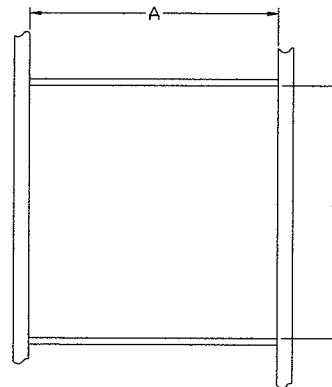
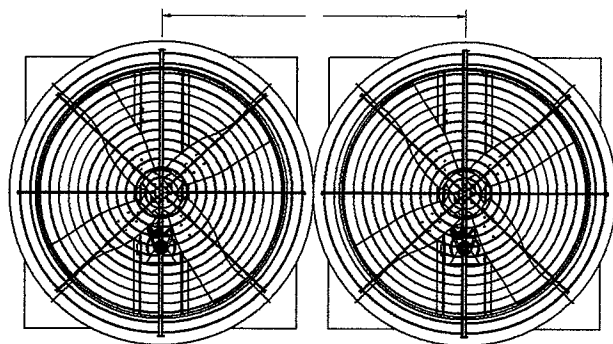
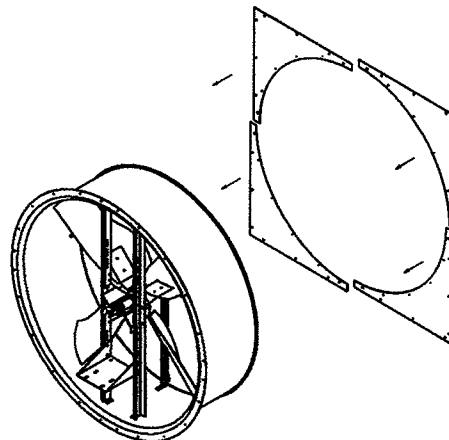
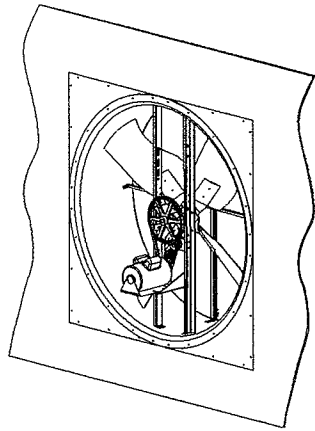

Figure 1
Figure 2
Figure 3
Figure 4
3. **Caution!** Guards must be installed when fan is within reach of personnel or within eight (8) (2.5 m) feet of working level or when deemed advisable for safety.
4. Attach the corner fillers to the fan inlet flange as shown in Figure 3 and Figure 4 using the #10 x 1 screws
centerline of the fan as shown in Figure 4. Fasten with screws provided by the installer.
2. Place a wrench on the hex nut in the belt tightener body as shown in Figure 1 and a wrench on the belt tightener mounting fastener.
3. Using the wrench on the belt tightener body, apply pressure in the appropriate direction (see Figure 1) until the belt is properly tensioned. **Note:** The belt tightener body has marks on it as shown in Figure 2 representing degrees. The proper alignment after tightening the mounting bolt is shown in Figure 3.
5. If the belt tightener cannot be adjusted with hitting another part of the fan, tighten the belt by adjusting the fans motor base toward the top of the fan with the belt tightener mounting bolt loose (see item 1). Continue the adjustment at Item 2.